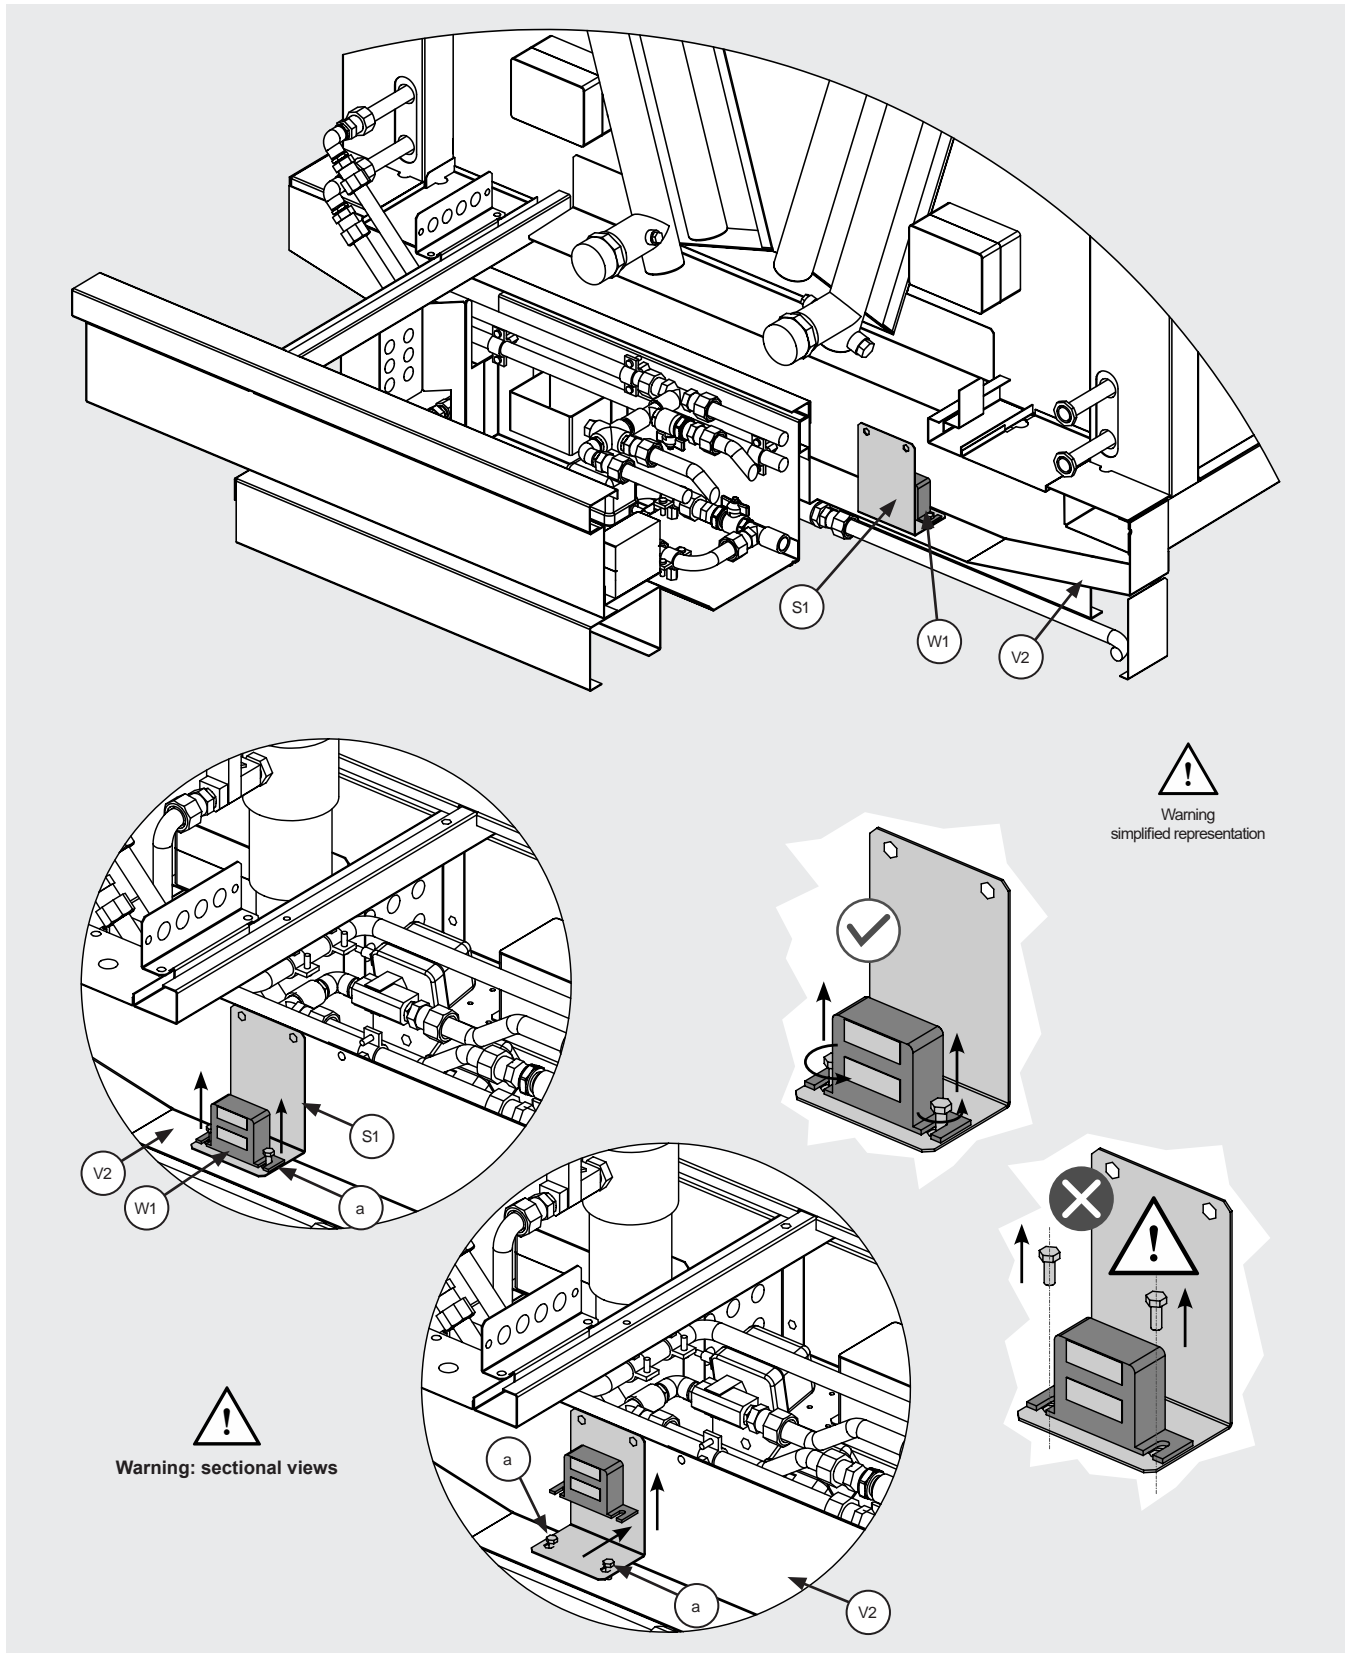

Figure 31
- 12.16.4 For replacement of level switch (W1), see Figure 31. (W1) is housed on a bracket (S1) which holds it in place.